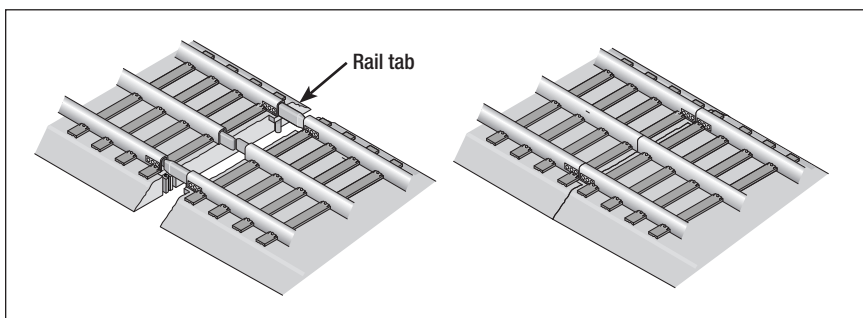

Figure 3. Joining the track sections
**F**asTrack track sections join together easily. With interlocking roadbed sections and large rail tabs, the track fits together securely so you always have good electrical contact. Take a look at Figure 3 to see how to join the track sections.